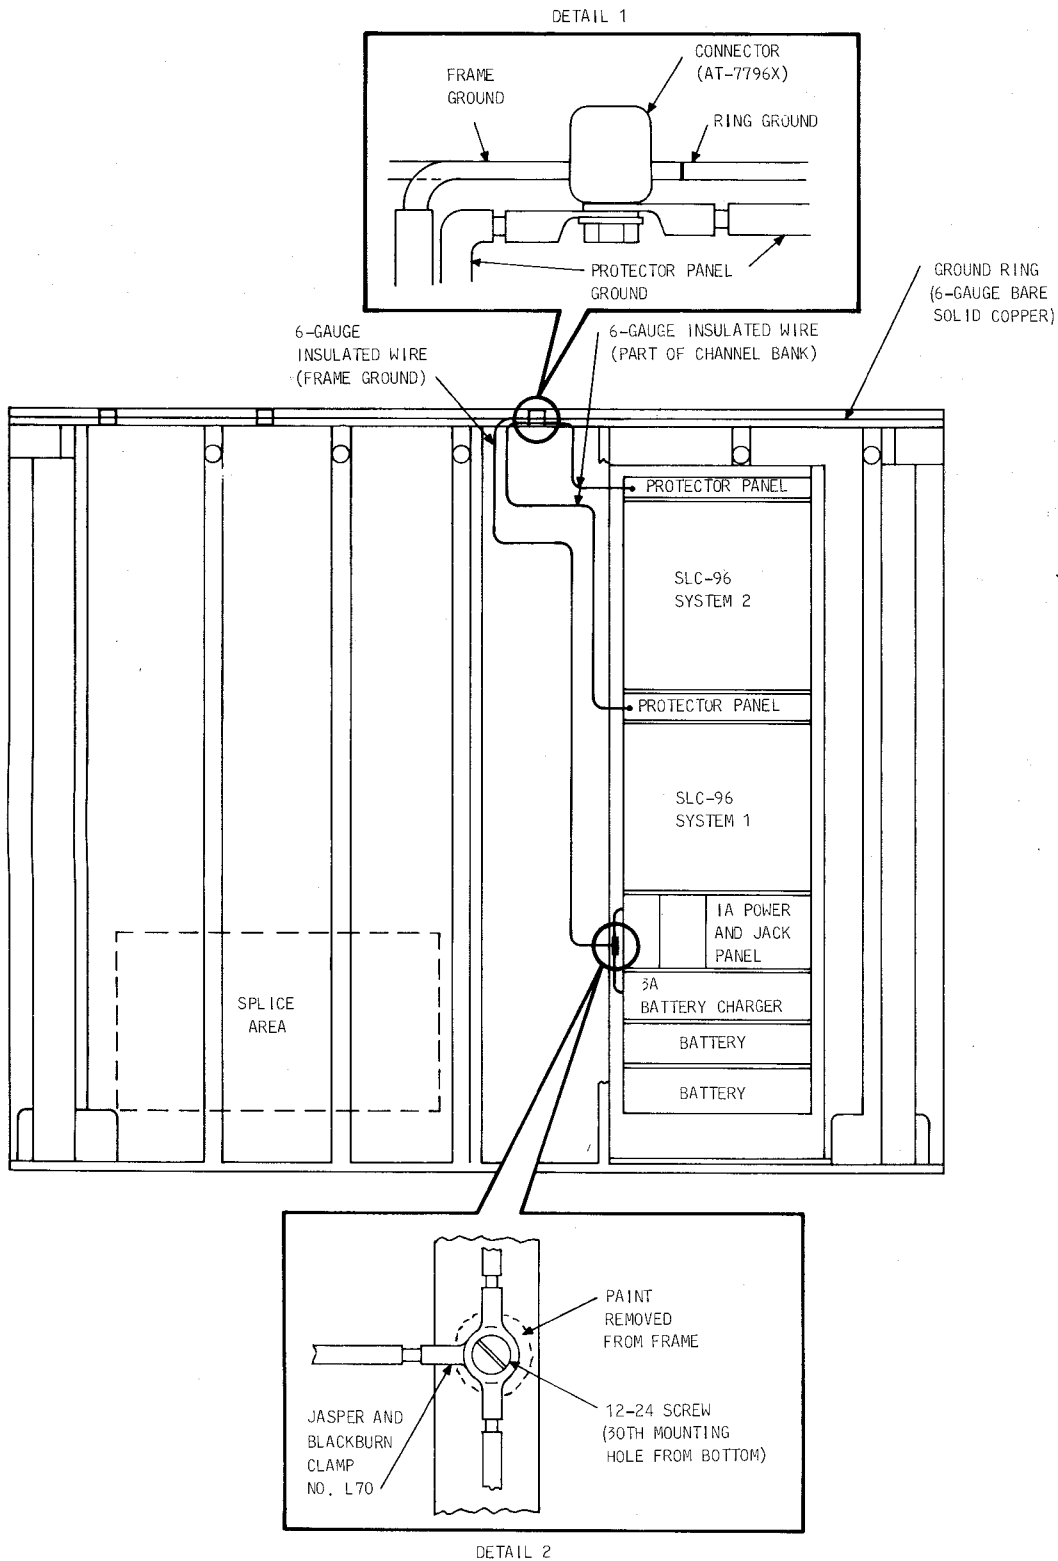

Fig. 4—Equipment and Frame Grounding
5.02 From each protector panel (1 or 2 per bay), the 6-gauge insulated wire (furnished with channel banks) must be attached to the ground ring, using an AT-7796X connector as shown in Fig. 4, Detail 1.
The lug from this lead along with the lugs from the leads to the power and jack panel and the battery charger is placed under a No. 12-24 screw (furnished with 1A power and jack panel) at the 30th mounting hole (from the bottom of frame) as shown in Fig. 4, Detail 2.
5.04 The third ground wire is connected to the ground ring, using an AT-7796X connector as shown in Fig. 4, Detail 1.